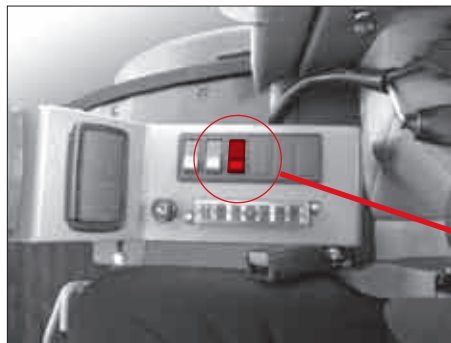

Fig. 9
The loader lift arms can be secured against unintentional operation with an arrest. When the arrest is switched on, the control lamp in the switch lights up (Fig. 9), and the loader lift arms will not move if the loader controls are moved.
Activate the loader lift arms locking system by switching the rocker switch (Fig. 9).
- Switch the rocker switch (Fig. 9) to position 1:
- Switch the rocker switch (Fig. 9) to position 0: